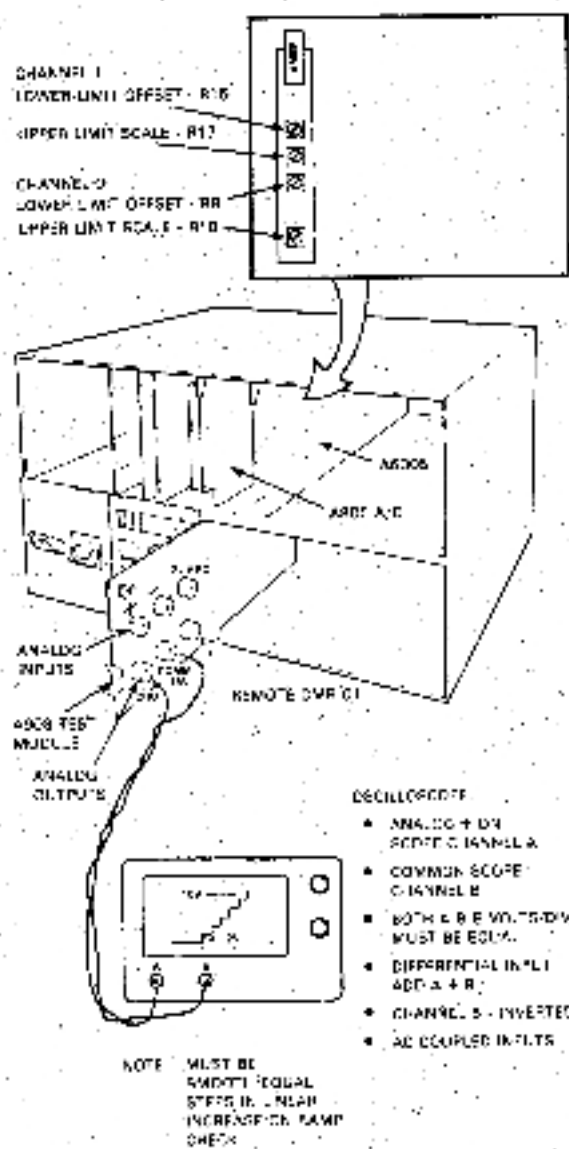

Figure 3-18 A6005 Test Configuration
- See Figure 3-18.
Basically the same as the test configuration of Figure 3-18 except that scope is replaced by voltmeter.